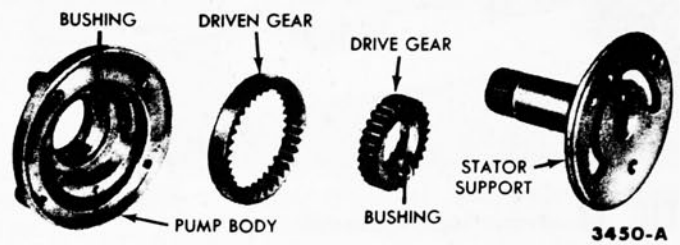

FIG. 16—Front Pump
3. Refer to Fig. 16 for a disassembled view of the front pump. Inspect the pump body bushing, drive gear